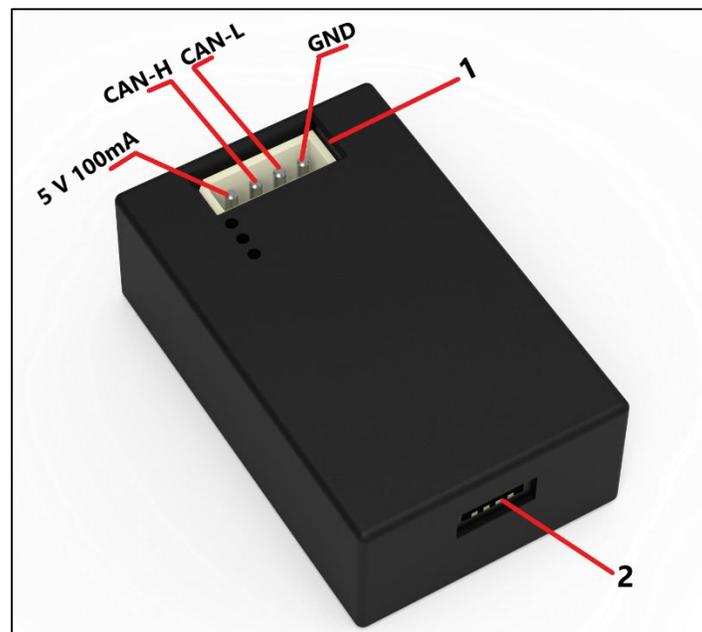

Figure 1-2: The CAN-USB dongle in the RDrive supply package
The dongle has two connectors (see Figure 1-2):
- a CAN-USB dongle (see Figure 1-2)